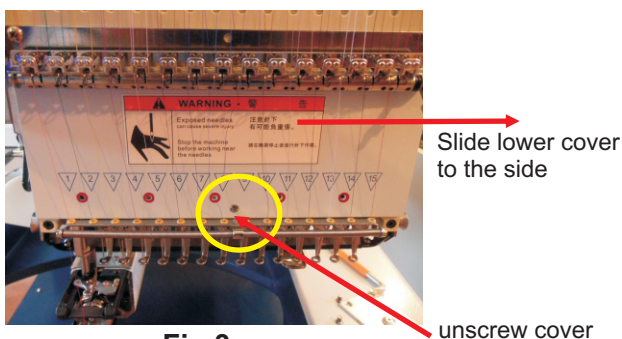

Fig 3
1. Remove the lower cover (Fig 3)